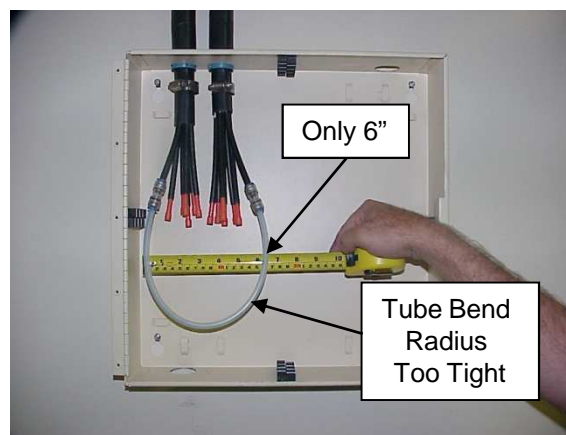

Figure 3
7.2 Where possible, do not locate tube cables side-by-side. When tubes are interconnected, tight tube bending inside TDU will result that could damage individual tubes. Additionally, fiber bundle installation operations will be very difficult. **See Fig. 3.**